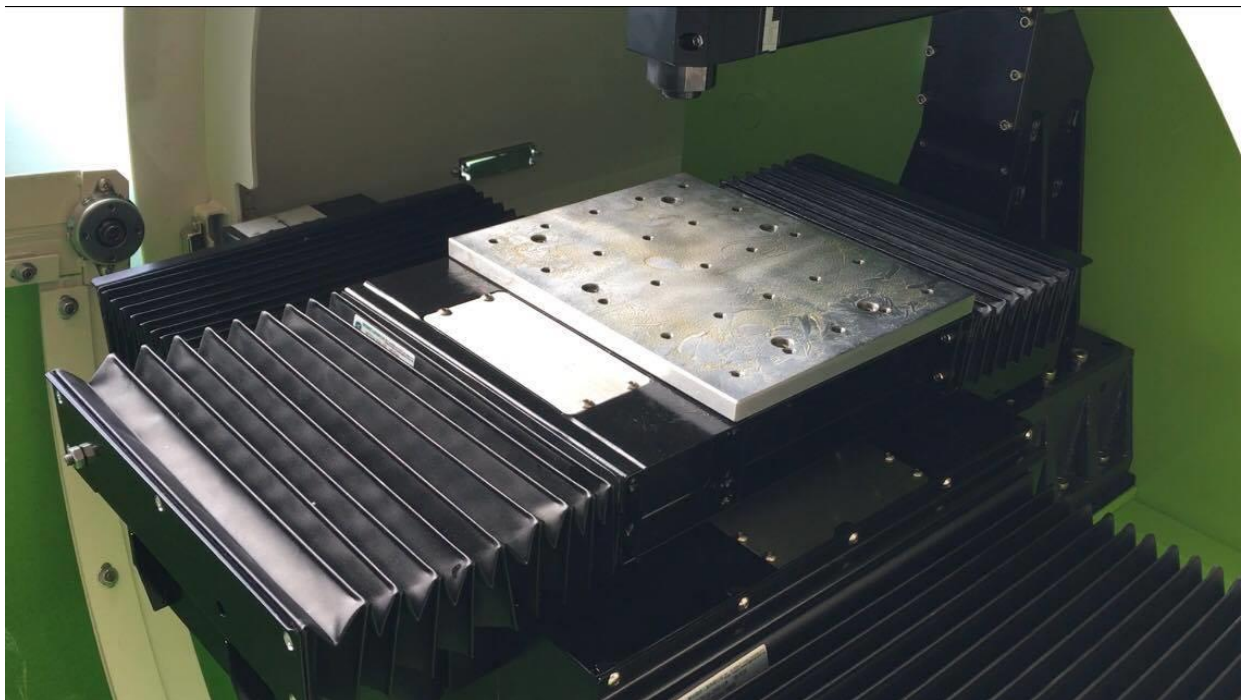

Figure 4: Ball Screw Driven XY Table
**C.2.** This section is for the experimental implementation of **your own trajectory on the real XY table**. A picture of the actual ball screw driven XY table is given in Figure 4. The maximum workspace for the XY